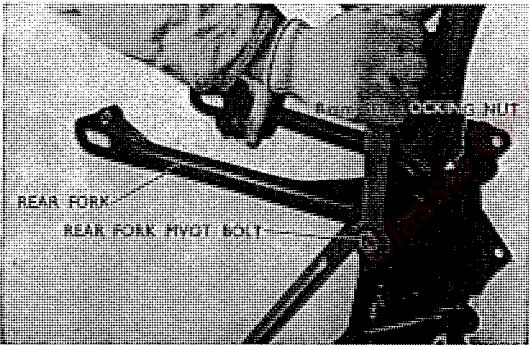

Fig. 4.60 Removing rear fork
5. When the 14 mm self locking nut is removed and the rear fork pivot bolt is removed, the rear fork can be separated from the frame. (Refer to Fig. 4.60)